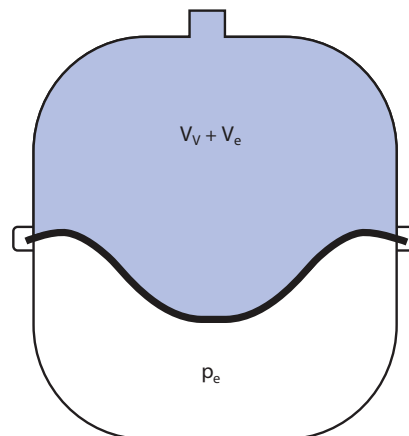

Fig. 108 Final pressure of a diaphragm expansion vessel
At the maximum collector temperature, the filling gas is compressed to the final system pressure by taking up additional expansion volume ( $V_e$ , Fig. 108).
**Calculation parameters** (Fig. 107) and picture legend (Fig. 108)